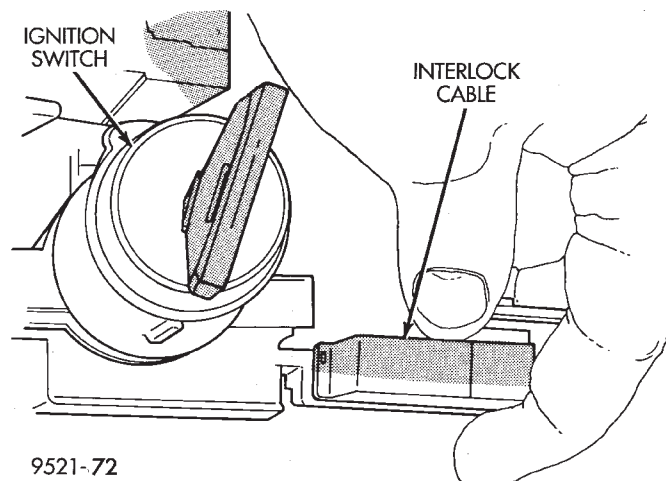

Fig. 18 Interlock Cable At Housing
- (1) Route interlock cable into lower dash panel.
- (2) Turn the ignition switch to the RUN position.
(3) Install the interlock cable into the interlock housing at the steering column (Fig. 18). Verify the cable snaps into the housing.